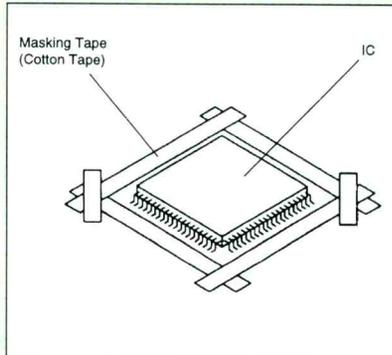

Figure 1.
1. Put the masking tape (cotton tape) around the flat package IC to protect other parts from any damage (Figure 1). Note: masking is carried out on all the parts located within 10mm of the IC leads.